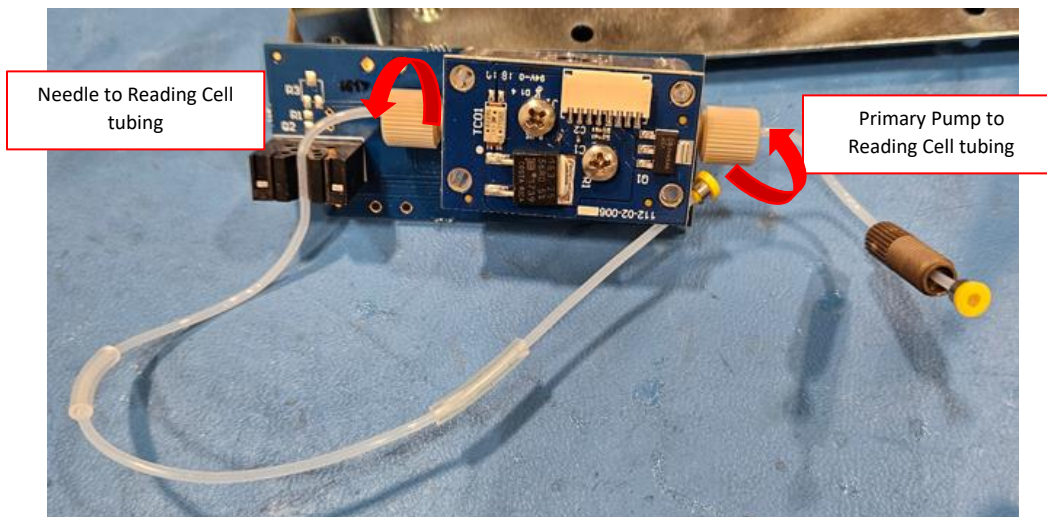

Figure 29
- 6.1. Connect Primary Pump tubing to Reading Cell tubing and Needle to Reading Cell tubing by tightening connectors in the clockwise direction in Figure 29. Install new analog wire connectors into Reading Cell.